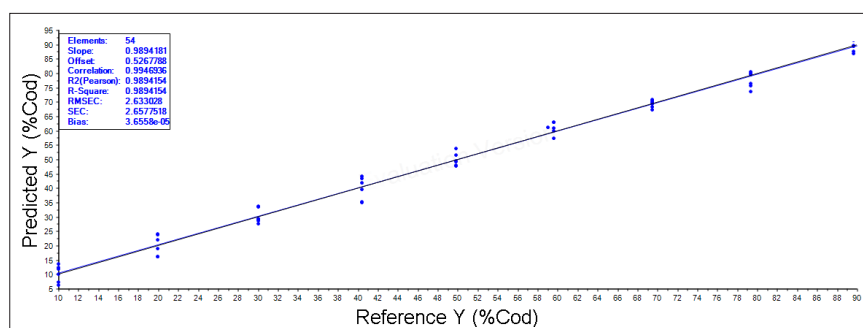

Figure 3. PLS regression for frozen/thawed Cod with Haddock adulteration (10–90%) calculation data.
Knowledge of the spectral properties of each fluorescence component greatly simplifies calculations of concentration of the individual components, which can be determined by decomposing the total emission spectrum. Figure 3 shows a typical example of the spectral decomposition emission spectrum measured from a post-operational emulsified sample with the second grade of nuclear cataract (NC++). The quality of the decomposition given by the shape and amplitude of the residuals function suggests that the elementary spectral components were correctly determined. We found that, for a statistically representative number of experimental samples, emission of OH-Trp, NFK and ArgP comprised the major portion of the total emission spectra. Assuming that the accumulation of PTMs causes
Figure 3. Fluorescent spectrum of the insoluble fraction of emulsified cataractous sample (A, black) and its decomposition determined from spectra of identified fluorescent derivatives of Trp and ArgP (B). Correlation of cataract grade with the normalised cumulative fraction for 21 emulsified eye lens proteins (C).
The study results for the potential fish adulteration also delivered excellent calibration results (e.g. Figure 3 for Cod with Haddock adulteration with R^2 value of 0.99). This issue occasionally rises its head in the normal newspapers for public consumption, such as